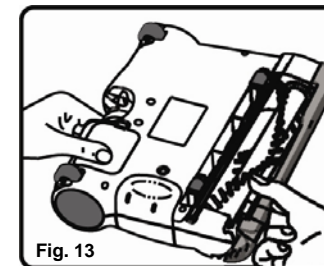

Fig. 13
4. Periodically remove the transparent brush cover on the front of the cordless sweeper and remove any build up of lint, hair or fiber around the rotating brush. To remove the cover - grip the cover from the bottom, pull out and upward until the cover unlocks from the side slots and tabs located on the top of the sweeper. Carefully cut away threads or hair with scissors. (Fig. 13)